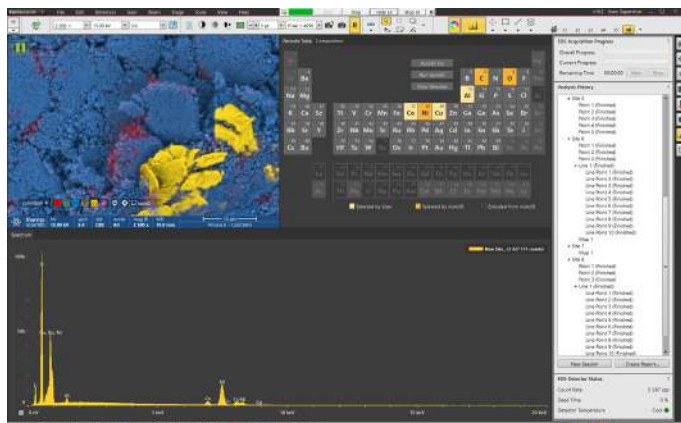

Figure 2: The dedicated workspace in ColorSEM Technology is fully integrated in the xT user interface. Sample: Li-Ion battery anode. (15 kV, 1.1 nA).
Each element is indicated by a different color, so you can clearly see the sample composition in the xT user interface (UI) (Figure 2) without switching to another software program. Each element can be turned on or off in order to focus only on the relevant information.